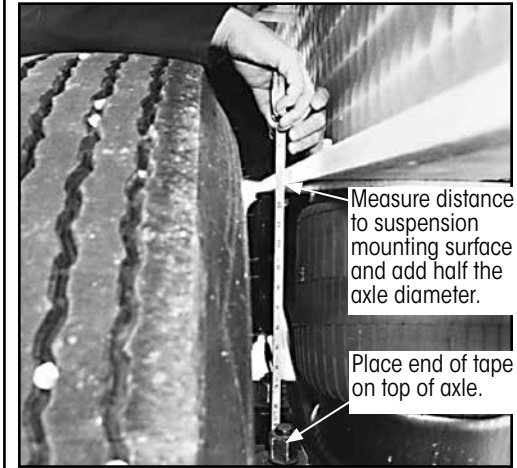

Figure 4: Measuring ride height
- A. **Measure** the distance from the top of the axle to the mounting surface of the suspension (Figure 4).